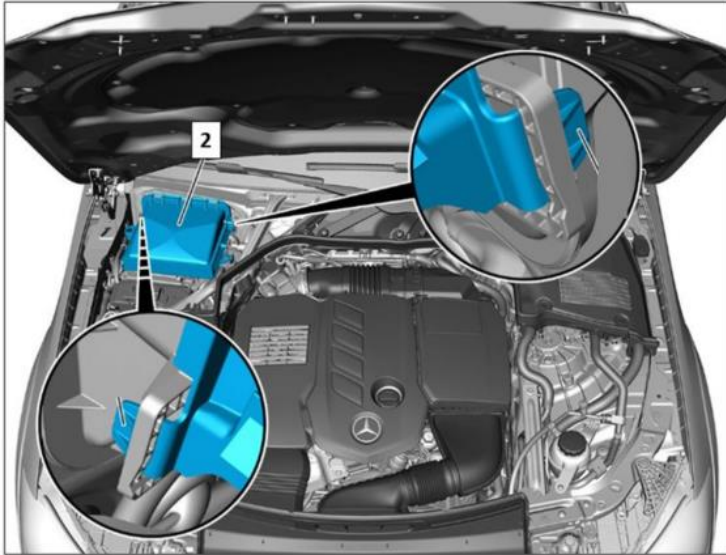

Figure 3, left-hand drive vehicle
1. Remove dust filter with air duct segment (**2, Figure 3**).